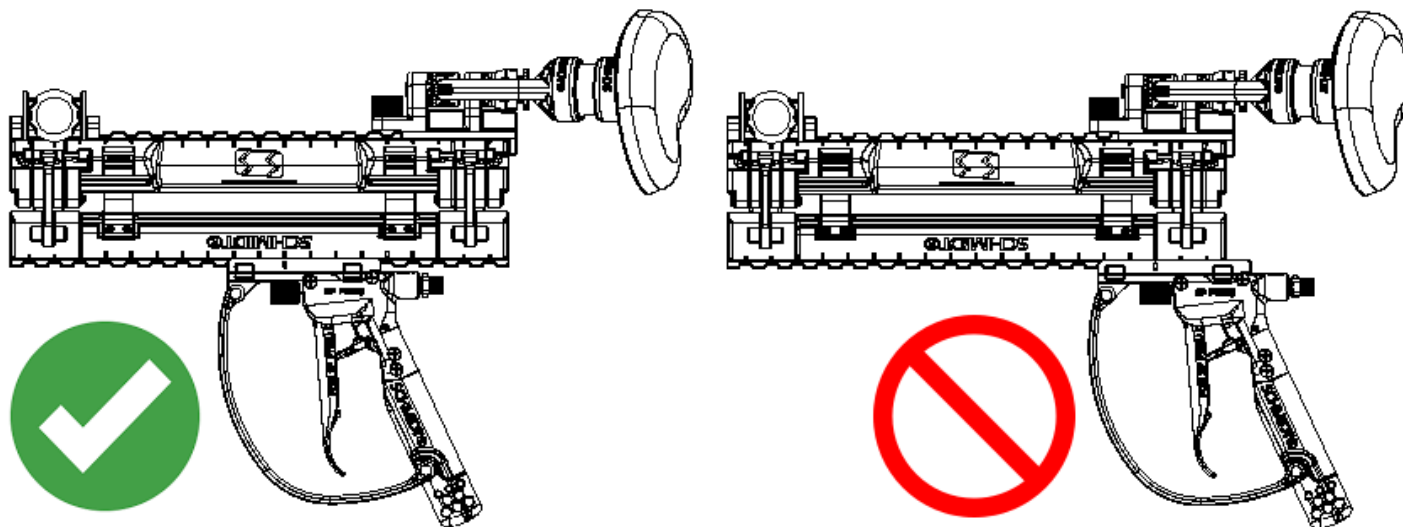

Figure 3.8
- 3.2.3 Slide the G3 trigger deadman (#10) onto the rail (#4) until deadman is completely on the rail. (See Figure 3.8)
- 5.3.3 Secure the G3 Trigger Deadman (#10) to the BAABS lower rail (#4) if not previously attached. See Figures 3.8 – 3.9.